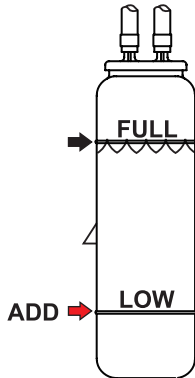

Figure 22. Coolant Recovery Tank
1. Verify that the coolant level in the coolant recovery tank is between the **FULL** and **LOW** markings as shown in Figure 22.